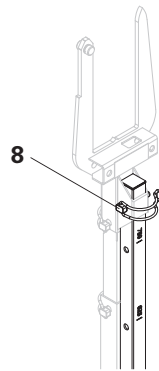

Fig. A4.02
1. Pull out the tube linch pin (8). (Fig. A4.02)